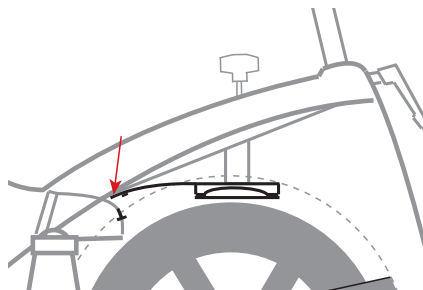

Figure 17
- 5: Fasten the remaining screw furthest away from the block, and then make sure that both screws are tightened properly, see figure 17.